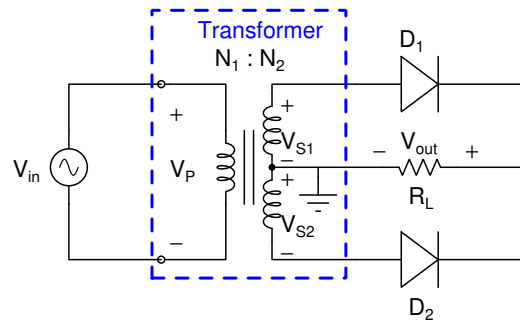

Figure 2
- Connect the circuit as shown in the figure 2 and apply V_{in} from function generator (amplitude 12 Vpp and 1 kHz), $R_L = 50\text{ k}\Omega$.